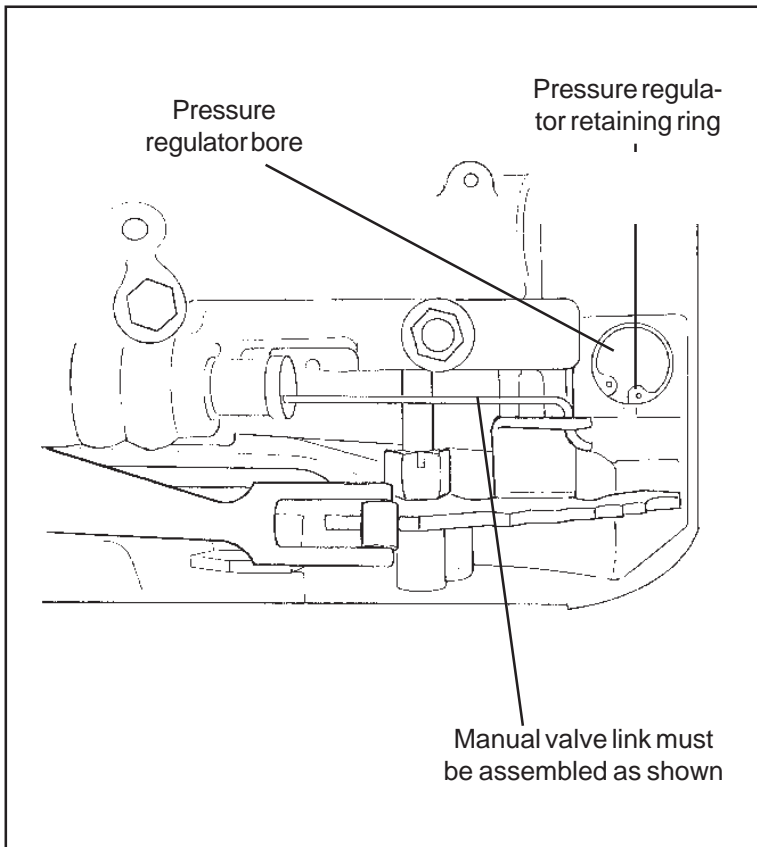

Figure 6
Remove the snap ring at the end of the pressure regulator bore in the oil pump assembly (**See Fig. 6.**) Use a screwdriver to hold the pressure regulator assembly while removing the retaining ring. If the sleeves stick in the bore, lightly rap the sleeve with a small rod and a mallet. Remove two sleeves with valves and the pressure regulator spring. The pressure regulator valve may fall out but it does not need to be removed.
STEP 19. Valve body installation. Make sure check balls are in proper locations. Position the manual valve so the link rod can be engaged (See Fig. 6.) The link rod must be placed into the hole of the manual rod at a right angle, then rotated to allow the valve to enter the valve body bore. Do not force the valve at any time. When the valve is fully engaged, align the valve body and